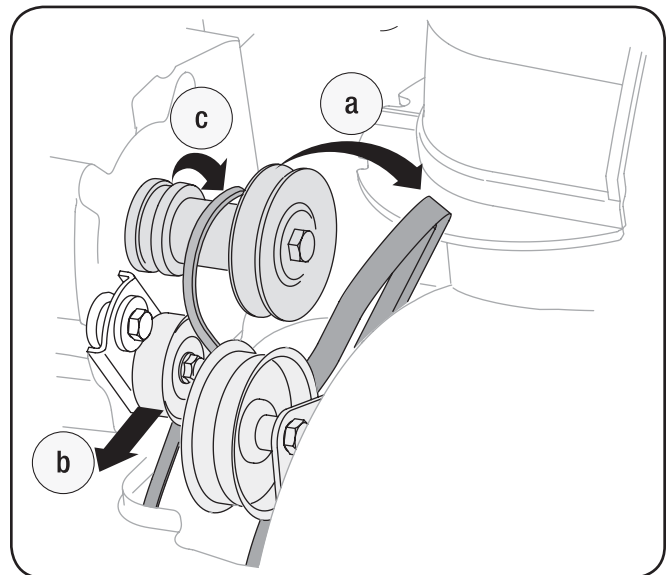

Figure 7-7
3. Remove the belt as follows. See Fig. 7-7: